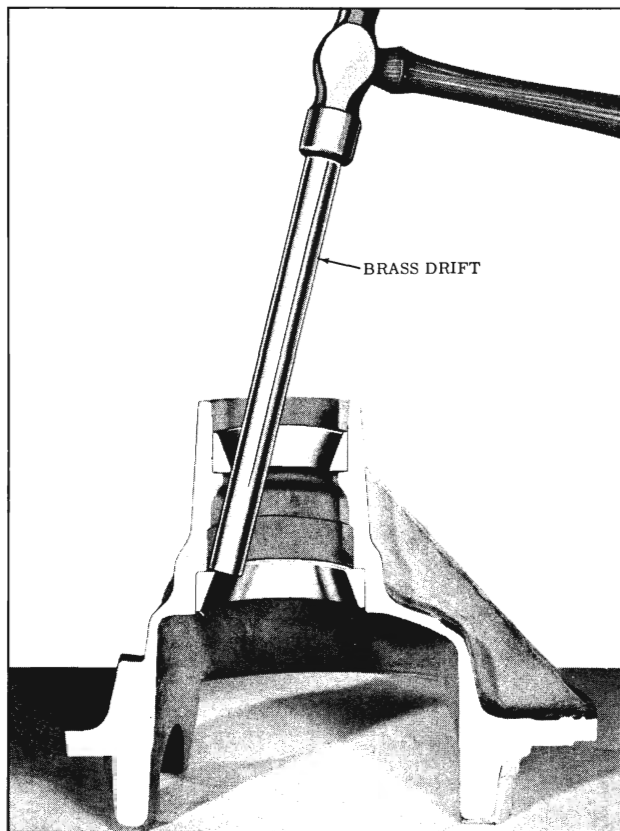

Fig. 6-23 Removing Rear Bearing Outer Race
8. Drive rear bearing outer race from carrier. (Fig. 6-23)